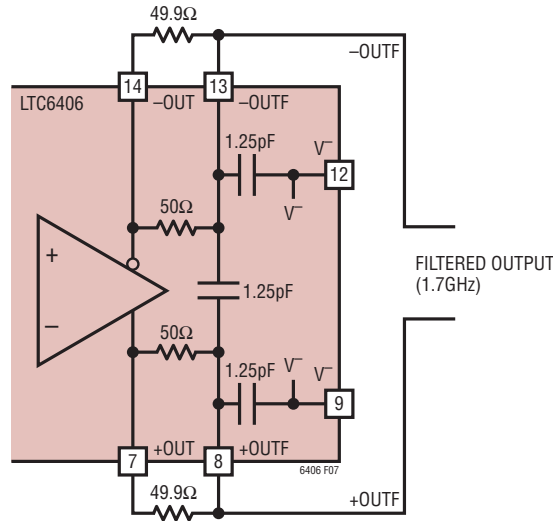

Figure 7. LTC6406 Filter Topology Modified for 2x Filter Bandwidth (Two External Resistors)
1.25pF (tolerance \pm 15%) capacitor connected between the two filtered outputs. This resistor/capacitor combination creates filtered outputs that look like a series 50 Ω resistor with a 3.75pF capacitor shunting each filtered output to AC ground, providing a -3dB bandwidth of 850MHz, and a noise bandwidth of 1335MHz. The filter cutoff frequency is easily modified with just a few external components. To increase the cutoff frequency, simply add two equal value resistors, one between +OUT and +OUTF and the other between -OUT and -OUTF (Figure 7). These resistors, in parallel with the internal 50 Ω resistors, lower the overall resistance and therefore increase filter bandwidth. For example, to double the filter bandwidth, add two external 50 Ω resistors to lower the series filter resistance to 25 Ω . The 3.75pF of capacitance remains unchanged, so filter bandwidth doubles. Keep in mind, the series resistance also serves to decouple the outputs from load capacitance. The outputs of the LTC6406 are designed to drive 5pF to ground, so care should be taken to not lower the effective impedance between +OUT and +OUTF or -OUT and -OUTF below 15 Ω .